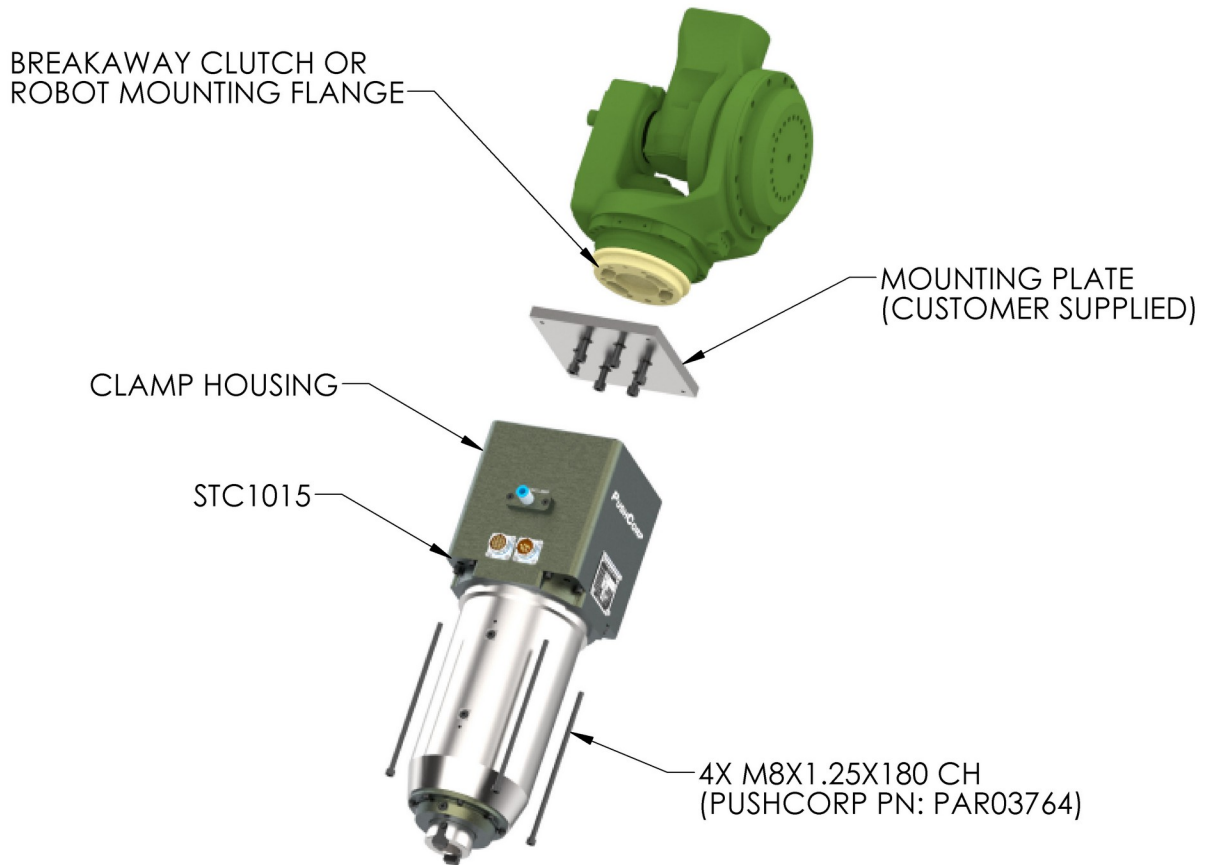

Figure 3: STC1015 Direct Mounting
To mount the STC1015, first attach the Mounting Plate to the Robot Mounting Flange or to the Breakaway Clutch, per the manufacturer’s specifications. Once the Mounting Plate is secured, place the STC1015 against the Mounting Plate and install (4) four, M8x1.25X180mm, Socket Head Cap Screws. (See Figure 3.) Tighten the fasteners to the torque specified in Section 4.0.